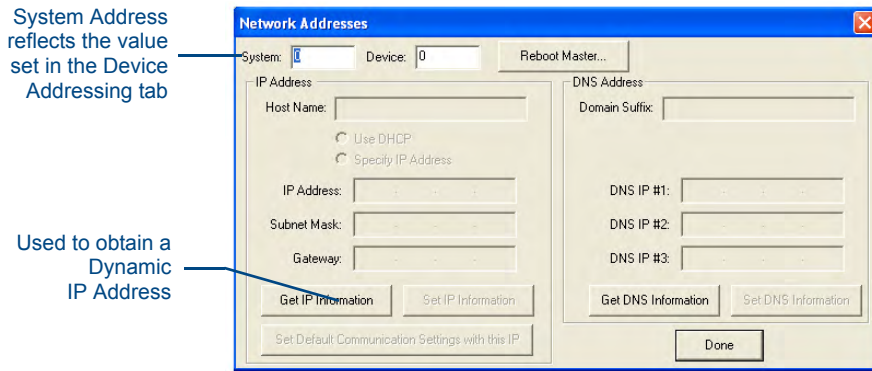

FIG. 19 Network Addresses dialog (for a DHCP IP Address)
1. Select **Diagnostics > Network Addresses** from the Main menu to access the Network Addresses dialog (FIG. 19).